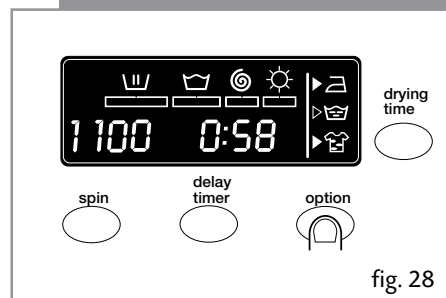

fig. 28
- By pressing the button several times you can choose between several combinations of one, two and up to three additional functions at the same time depending on the programme selected (Figure 28).